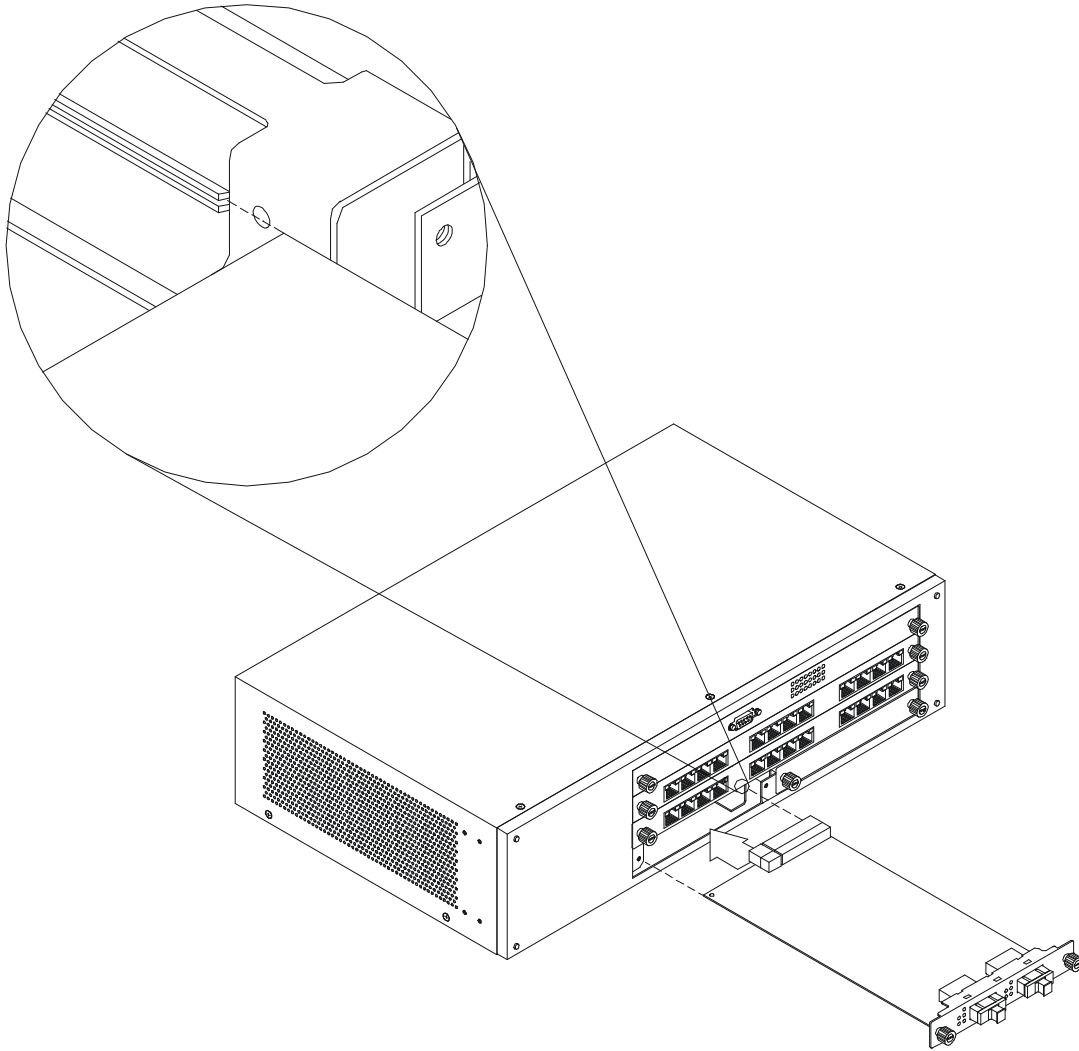

Figure 8: Insert Optional Module
3. Install the optional module by inserting it into the guide, see Figure 8, and sliding it in until it stops. Press in firmly until you feel the optional module snap into place. The optional module should be level and flush with the rest of the DES-5024. Never force, twist or bend the module. The optional module slides in smoothly.